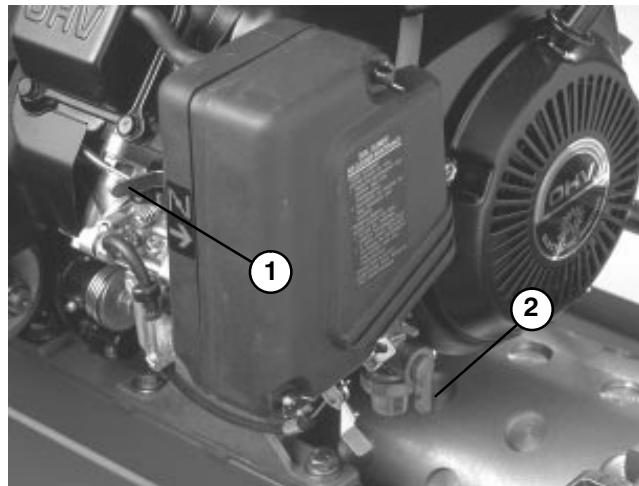

Figure 20
Choke Lever (Fig. 20) - Located on left front of engine. Lever has two positions: RUN and CHOKE. Move lever to CHOKE position when starting a cold engine. After engine starts move lever to RUN position.
Fuel Shut-off Valve (Fig. 20) - Located on left front of engine. Valve has two positions: CLOSED and OPEN. Move lever to closed position when storing or transporting machine. Open valve before starting engine.
2. Open fuel shut-off valve on engine (Fig. 20).
5. Move choke lever (Fig. 20) to half-open position when starting a cold engine. Choke may not be required when starting a warm engine.